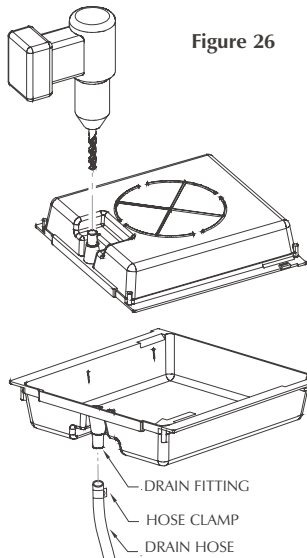

Figure 27
6. First install a $\frac{5}{8}$ " hose clamp (not supplied) over the end of the drain tube, then push the drain tube up over the drain fitting and secure in place with the hose clamp. (Fig. 27)